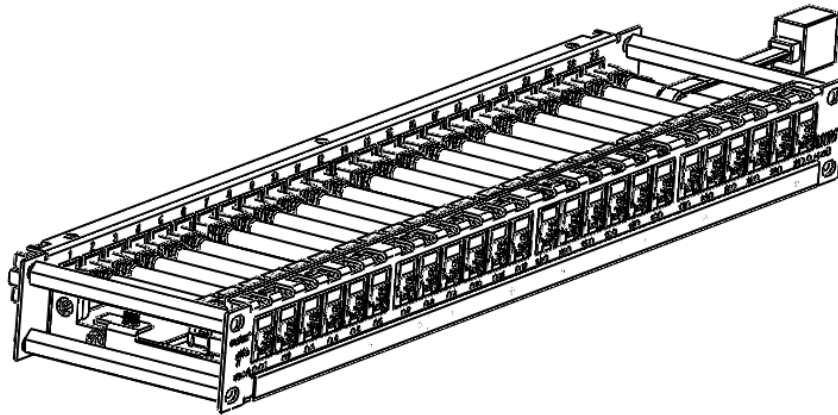

Figure 2
6. Loosely attach MIIM ICS panel on standoffs. Use screws from the panel to secure MIIM ICS panel to standoffs. MIIM ICS panel should have freedom of movement to facilitate attaching jacks (see Figure 2).